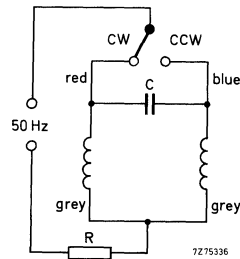

Fig. 3 Connection of the series resistor.
2. For operation from 220 V, 50 Hz mains voltage, a series resistor of 6,8 k $\Omega$ , 2,5 W should be used (Fig. 3).